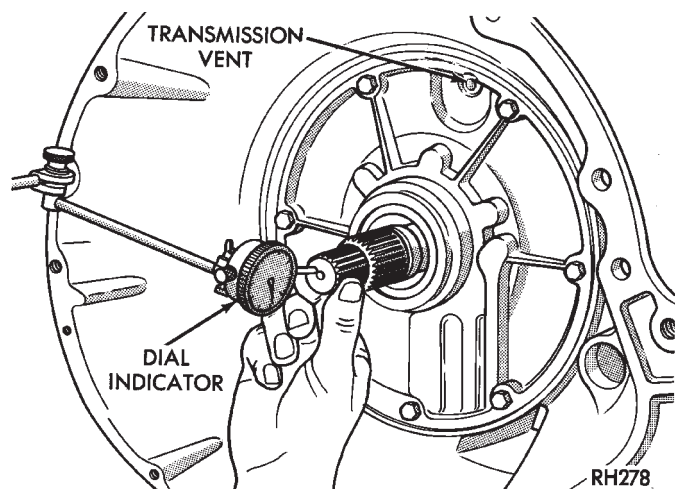

Fig. 183 Measuring Input Shaft End Play
(45) Carefully withdraw alignment tool from overdrive unit.
(46) Lubricate intermediate shaft splines and bushing surfaces with transmission fluid or petroleum jelly.
(47) Install overdrive unit. Note that intermediate shaft is snug fit in overdrive planetary gear and overrunning clutch. If overdrive unit will not seat, gear and clutch splines are probably misaligned.
(48) Apply 1-2 drops of Mopar thread adhesive (or Loctite 242) to overdrive unit attaching bolts. Then install and tighten bolts to 34 N·m (25 ft. lbs.) torque. **Be sure wire harness clips are placed on appropriate overdrive bolts beforehand.**
(49) Measure and if necessary, correct input shaft end play as follows (Fig. 183):